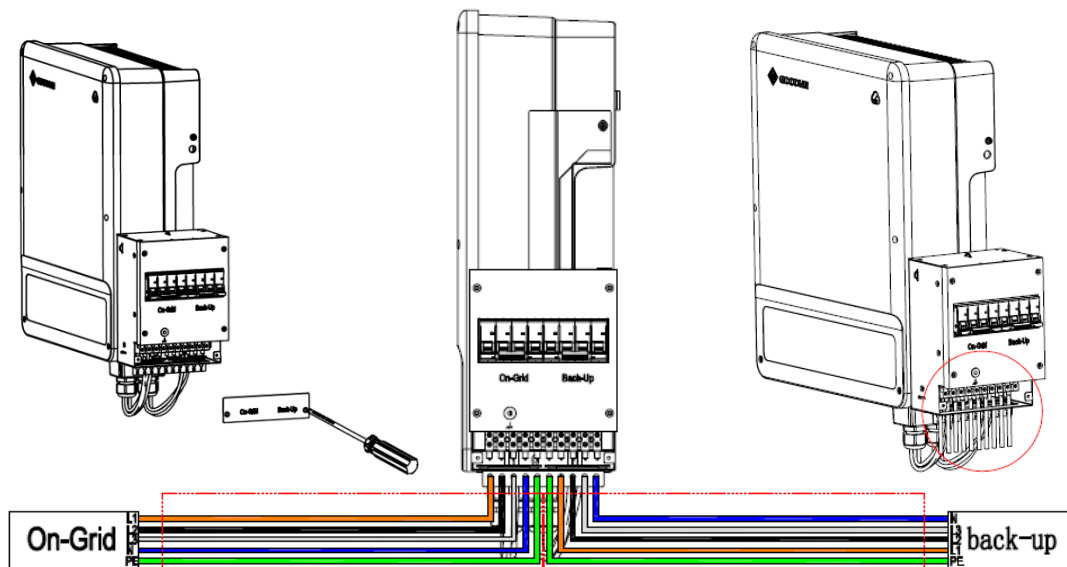

Figure 32 Connection of AC cables
Step 22: Please remove the cover of the cable box. Connect the AC cables to the corresponding ports. Fix the cover back to the cable box, as Figure 32 shows.